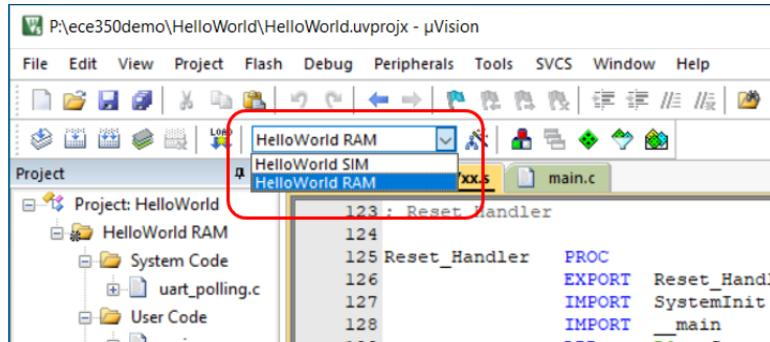
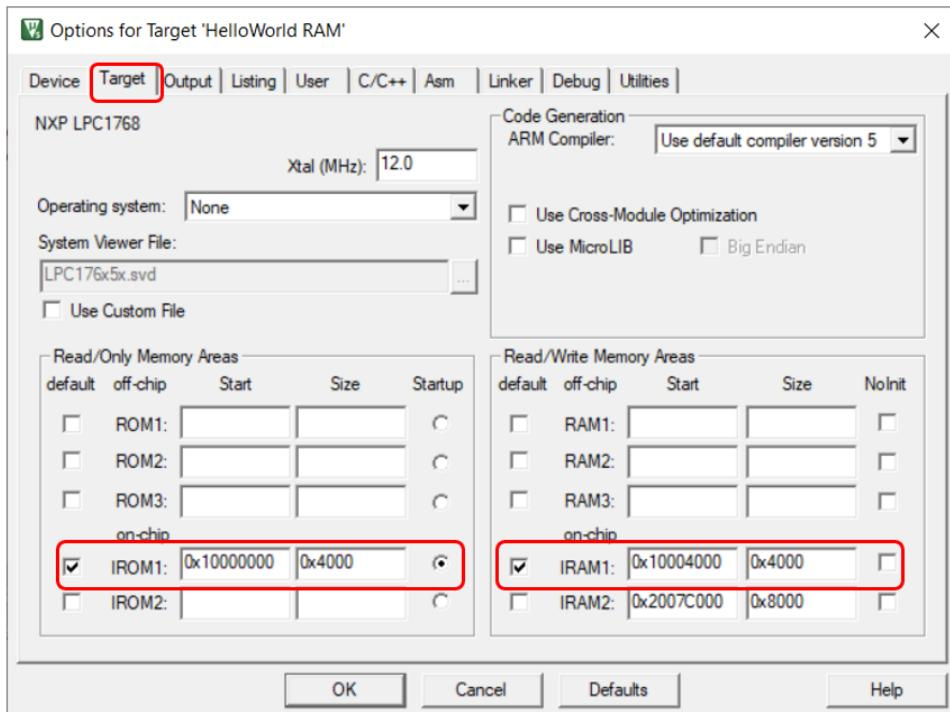

Figure 9.25: Keil IDE: Select HelloWorld RAM Target.
Figure 9.26: Keil IDE: Configure Target Options Target Tab for In-memory Execution.
3. Switch your target to the newly created RAM target (See Figure 9.25). Configure in-memory code execution as shown in Figure 9.26.
The ARM compiler can be configured to have a different starting address. The configuration in Figure 9.26 makes code starting address in RAM.